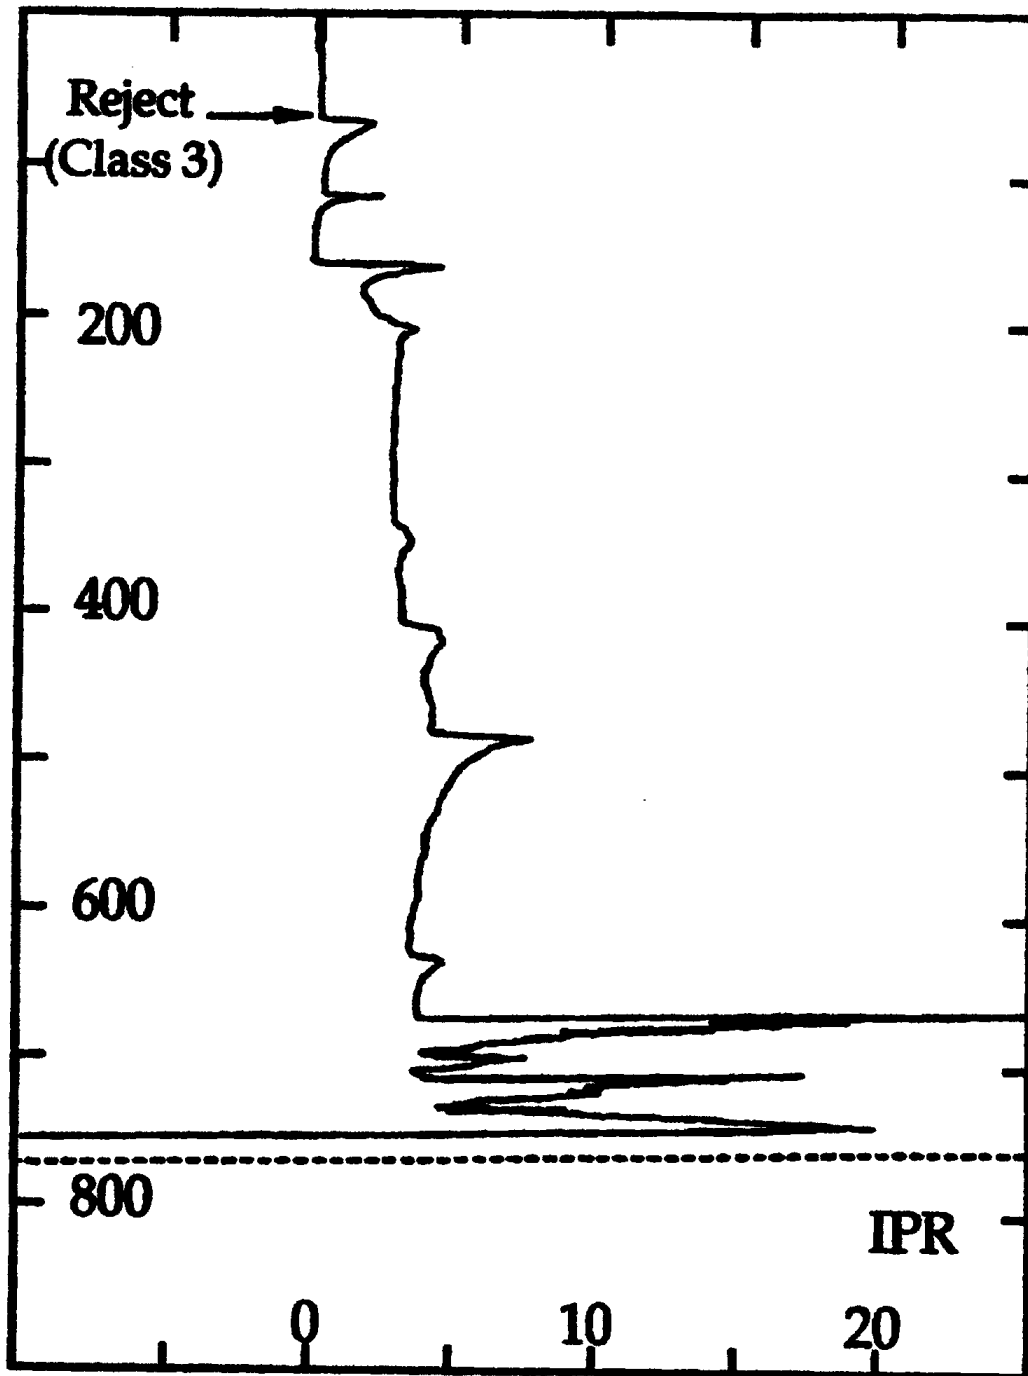

Figure 8f. Insulation Penetration Reject (IPR)
- Fig. 8f:** The IPR flag is used if the profile is deemed not to have fully recovered from an insulation penetration spike.